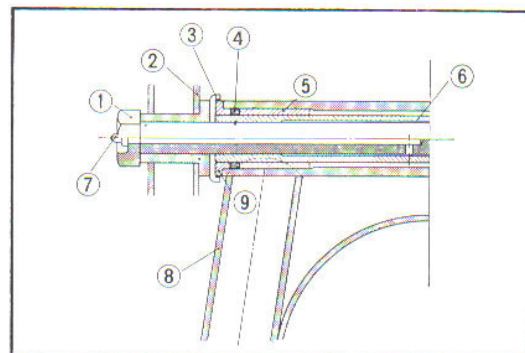

Fig. 4.64 Cross-section of the rear fork pivot portion
2. Drive in the pivot bushing and the center collar. Insert the rear fork seal cap. (Fig. 4.64)